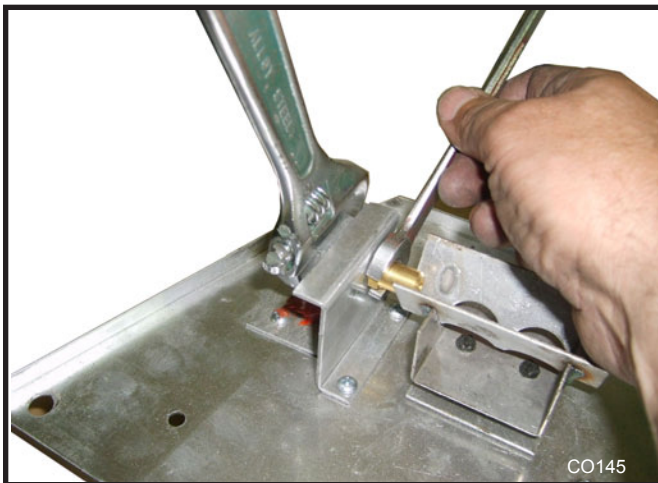

**Fig. 80** Remove three (3) nuts securing ember bed in place.
1. Remove three (3) 3/8" nuts on bottom side of burner pan. (Fig. 80)
2. Thread and tighten 3/8" nuts back onto pem studs on underneath side of control panel, reversing Step 1 shown in Figure 80.